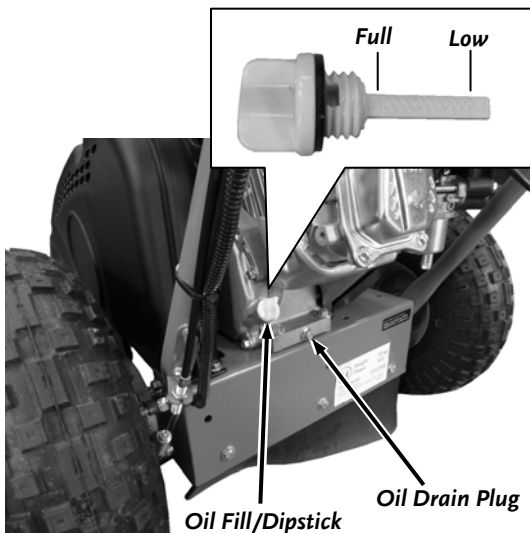

Figure 35
14. Position the machine so the Frame and Engine are level and place a Waste Oil Container under the Oil Drain Plug (**Figure 35**).